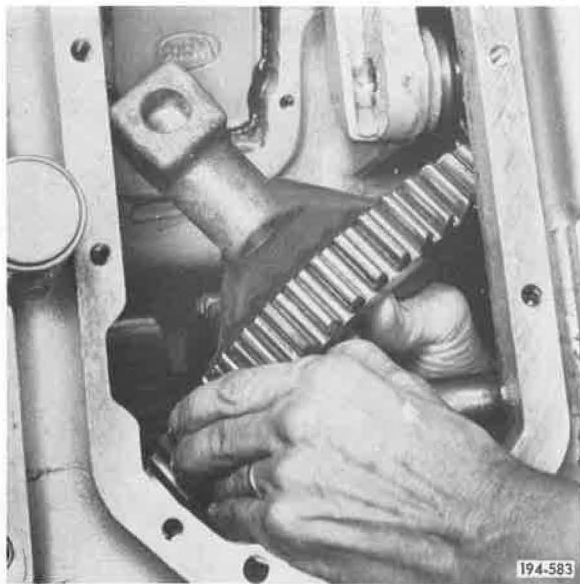

Figure 80. Removing Reverse Gear and Shift Fork
20. Remove reverse gear and its shifter fork. See Figure 80.